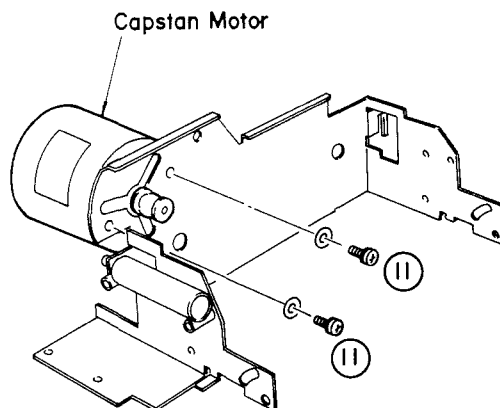

Fig. 8
- b. Remove 2 screws (11) in Fig. 8, then replace the capstan motor.